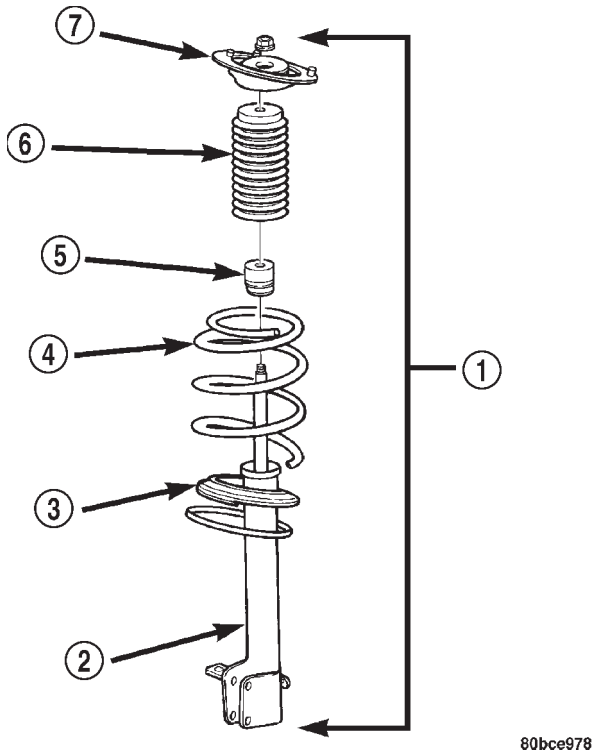

Fig. 19 Strut Assembly Components
(5) Remove the upper mount from the strut shaft (Fig. 19).
(6) Remove the clamp from the bottom of the coil spring and remove the strut out through the bottom of the coil spring.
(7) Remove the dust shield, then the jounce bumper from the strut shaft by pulling each straight up (Fig. 19).
(8) Remove the lower spring isolator from the lower spring seat located on the strut.
the isolator with the step in the lower spring seat on the strut (Fig. 19).
(4) Install the jounce bumper on the strut shaft. The jounce bumper is to be installed with the pointed end pointing downward toward the lower seat.
(5) Install the dust shield on the strut shaft (Fig. 19). The bottom of the dust shield will snap past the retainer on top of the strut housing.